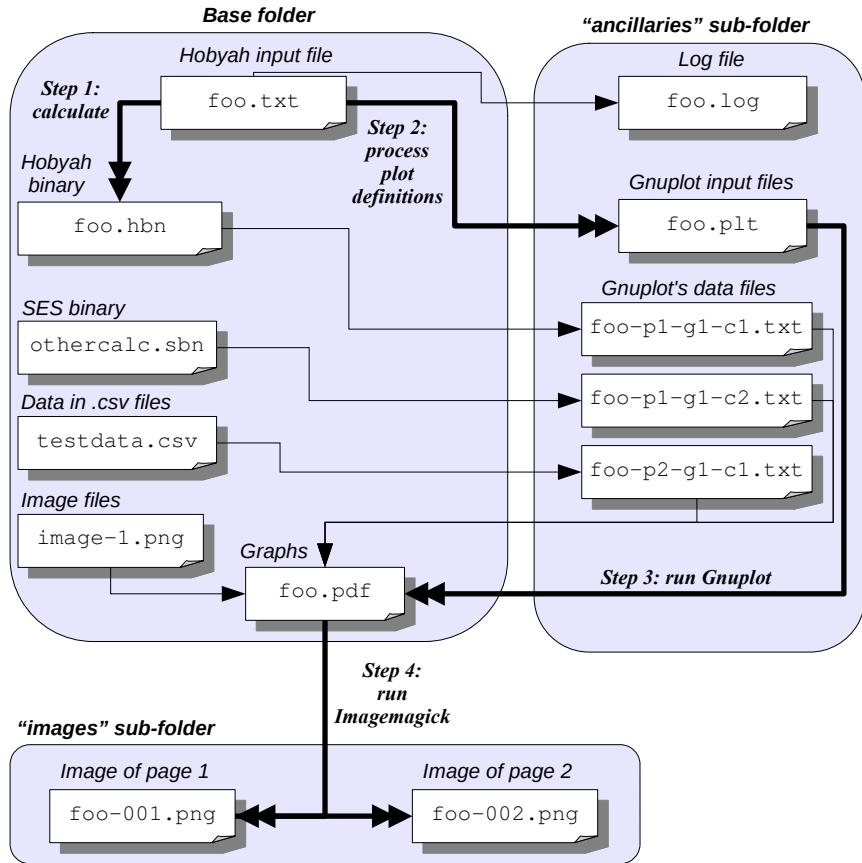

Figure 1.2: Program flow, files and folder structure
Figure 1.2 depicts the program operations and the locations of files and sub-folders generated/read when an input file for Hobyah (let's call it `foo.txt`) is fed to `Hobyah.py` for processing.
The large rounded rectangles in Figure 1.2 represent folders. There is one base folder, which holds the input file (`foo.txt` at the top left of the Figure). There are two subfolders within the base folder. One holds files that are either only of interest during debugging (the `ancillaries` folder), the other contains image files that would otherwise clutter up the base folder (the `images` folder).
The thick lines with double-headed arrows in Figure 1.2 represent a program running and generating new files. The thinner lines represent transfers of data from one program to another via files.
Hobyah runs its “calculate” function first and produces a new `.hbn` file full of calculation data (in this case, `foo.hbn` in the Figure). After finishing the calculation, it runs its “plot” function to generate files that can be read by Gnuplot. It then calls Gnuplot to generate one or more new `.pdf` files full of graphs. In most cases the process will end there (run a calculation, create one or more `.pdf` files of output). But it can be ordered to call ImageMagick to convert the pages of those `.pdf` to `.png` images (step 4 in Figure 1.2).
Some notes on the files and folders shown in Figure 1.2:
- **`foo.pdf`:** this holds one or more pages of graphs/images generated by the `plot` function. These graphs may be of calculation results in `foo.hbn`, from calculation results in other binary files, (like `othercalc.sbn` in Figure 1.2), from `.csv` files (like `testdata.csv`) and may include images (like `image-1.png`). More than one `.pdf` file may be created.
It is worth reiterating that Hobyah input files can be used purely for calculating (step 1 in Figure 1.2) or purely for plotting (steps 2 and 3 in Figure 1.2). It is useful to be able to run a calculation once then run without recalculating as you adjust the graph extents or the annotations.